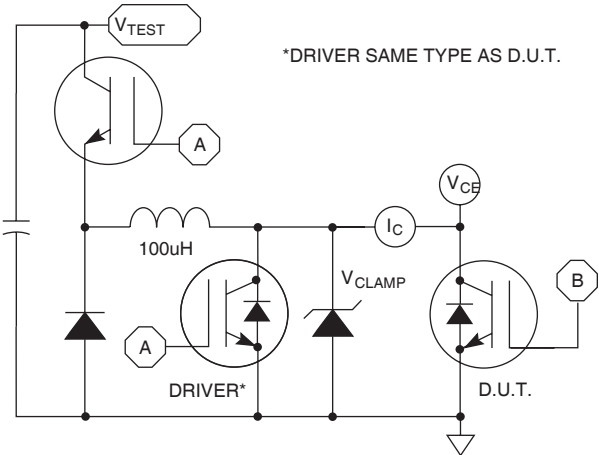

Figure 24, EON1 Test Circuit
① Repetitive Rating: Pulse width limited by maximum junction temperature.
② For Combi devices,  $I_{ces}$  includes both IGBT and FRED leakages
③ See MIL-STD-750 Method 3471.
④  $E_{on1}$  is the clam ped inductive turn-on-energy of the IGBT only, without the effect of a commutating diode reverse recovery current adding to the IGBT turn-on loss. (See Figure 24.)